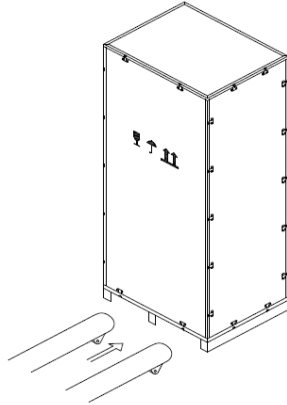

Figure 2-2 Transport to the designated site
- 2) Transport the equipment to the designated site by forklift, as shown in Figure 2-2.